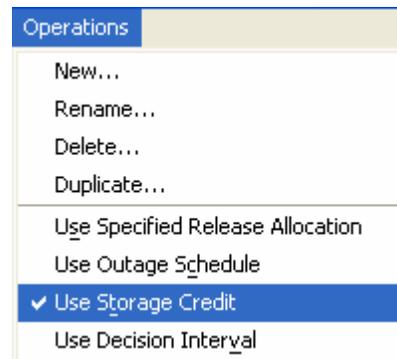

Figure 11.106 Reservoir Editor - Operations Menu, Use Storage Credit
1. Select the **Operations** tab in the reservoir editor. From the **Operations** menu, select **Use Storage Credit** (a check mark will appear as shown in Figure 11.106 to indicate that the Storage Credit will be used).